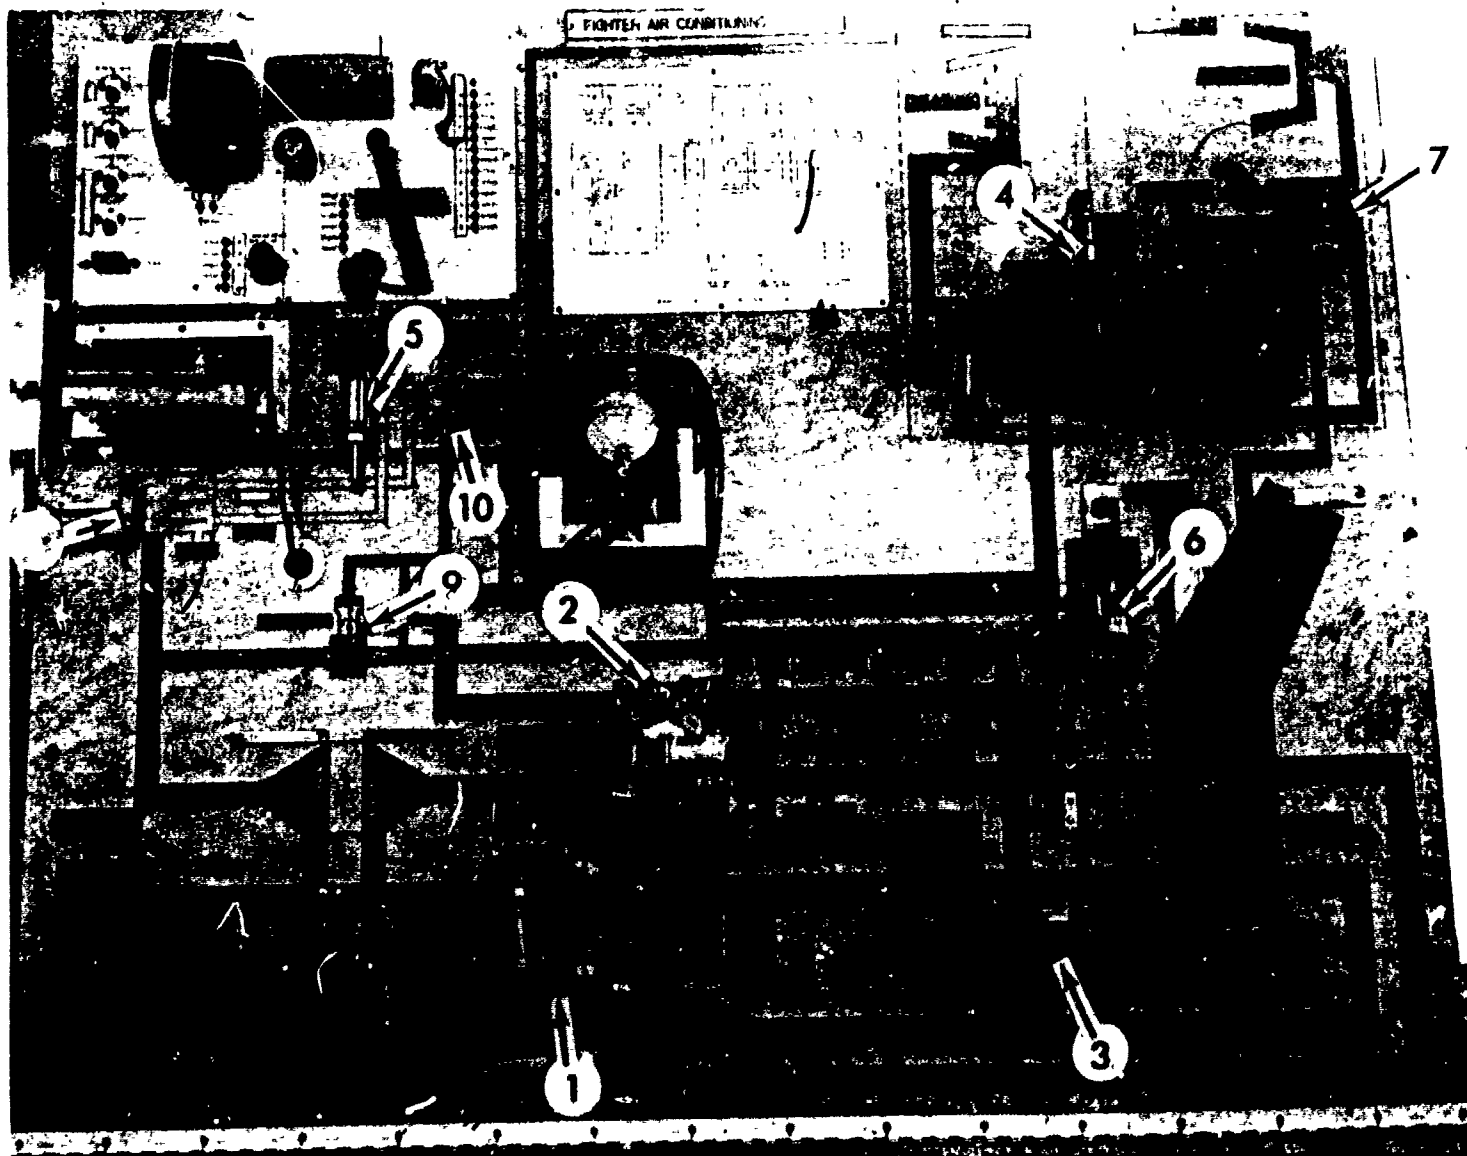

Figure 1. Fighter Air Conditioning Trainer.
a. Using the trainer and the illustration in figure 1, locate each of the numbered items. Write the name of each of these numbered items in the blank space. As you locate each component, notice the check point near the component that is used for checking the electrical circuitry.
- (1) _____
- (2) _____
- (3) _____
- (4) _____
- (5) _____
- (6) _____
- (7) _____
- (8) _____
- (9) _____
- (10) _____